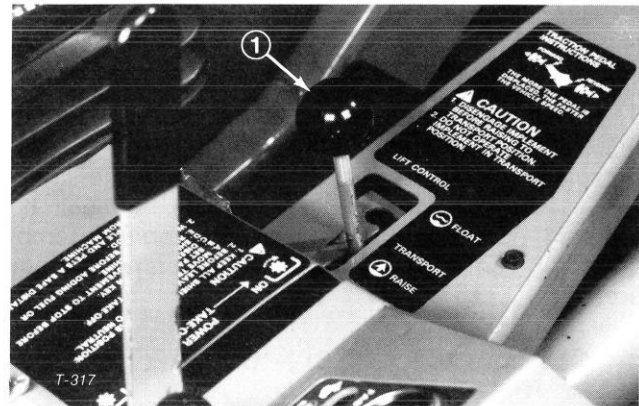
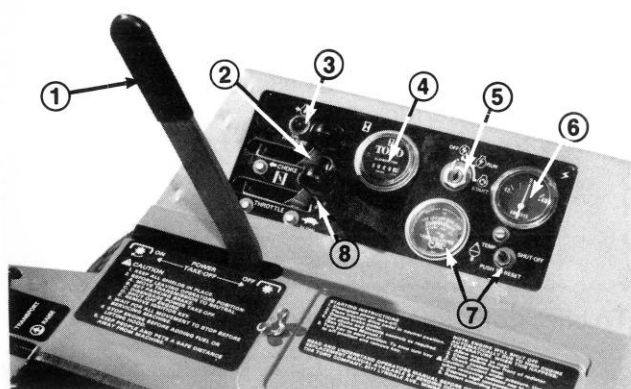

Figure 19
Figure 20
Lift Lever (Fig 19) — The hydraulic lift lever has three positions; FLOAT, TRANSPORT and RAISE. To lower implement to the ground, move lift lever forward into notch, which is the FLOAT position. The FLOAT position is used for operation and also when machine is not in operation. To raise implement, pull lift lever backward to the RAISE position. After implement is raised, allow lift lever to move to the TRANSPORT position. Normally, implement should be raised when driving from one work area to another, except when descending steep slopes.
PTO Lever (Fig. 20) — The PTO lever has two positions; ON, engage and OFF, disengage. Slowly push PTO lever fully forward to ON position to start the implement or cutting unit blades. Slowly, pull lever backward to OFF position to stop implement operation. The only time PTO lever should be in the ON position is when implement or cutting unit is down in operating position.
Oil Pressure Warning Light (Fig. 20) — The oil pressure warning light will glow and a buzzer will sound when oil pressure in engine drops below a safe level. If low oil pressure ever occurs, stop engine and determine the cause. Repair the damage before starting the engine again.
Hour Meter (Fig. 20) — The hour meter registers accumulated hours of engine operation. Use the hour meter to determine intervals for service maintenance and lubrication.
Ammeter (Fig. 20) — Ammeter shows charge rate of the battery by the alternator. When engine is running, there usually is a slight charge, unless engine is idling slowly. Needle will point to 0 when battery is fully charged. By contrast, alternator is not charging the battery when needle points to (-) negative side of ammeter, and if this happens, repair the charging system to prevent discharge of the battery.
Temperature Switch/Gauge and Reset Button (Fig. 20) — The temperature switch/gauge registers the temperature of the coolant in the cooling system. If temperature of coolant gets too high the engine will shut off automatically. When this happens, rotate ignition key to OFF. Automatic shut-off of the engine usually results from debris on front of screen or radiator, which reduces air flow. After cleaning outside of screen and radiator or repairing some other damage, press the reset button and start the engine.
Ignition Switch (Fig. 20) — The ignition switch, which is used to start and stop the engine, has three positions; OFF, RUN and START. Rotate
Choke (Fig. 20) — To start a cold engine, close carburetor choke by moving choke control fully forward. After engine starts, regulate choke to keep engine running smoothly. As soon as possible, open the choke by pulling it backward.
Throttle (Fig. 20) — Throttle is used to operate engine at various speeds. Moving throttle forward increases engine speed — FAST; backward decreases engine speed — SLOW. The throttle regulates the speed of the cutter blades or other implement components and, in conjunction with traction pedal, controls ground speed of the traction unit.
1. Insure parking brake is set, PTO lever is in OFF position (Fig. 20) and lift lever is in TRANS-PORT or FLOAT position (Fig. 19). Remove foot from traction pedal and assure it is in neutral.
2. Move throttle control (Fig. 20) to SLOW position.
3. To start engine, move choke lever (Fig. 20) fully forward.
4. Insert key into ignition switch (Fig. 20) and rotate it clockwise to START position. Release key immediately when engine starts and regulate choke to keep engine running smoothly.